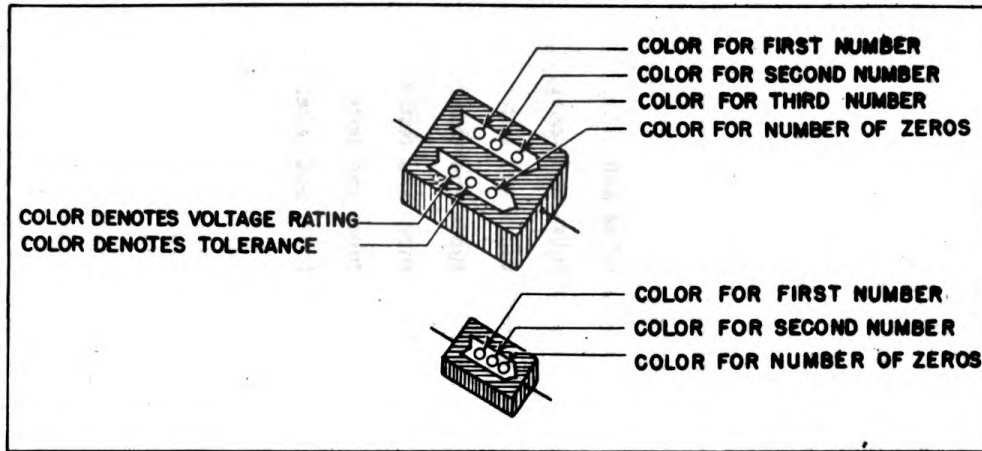

FIG. 39. CAPACITOR COLOR-CODE CHART
EXAMPLE: A 5,600 μmf . (0.0563 μf .) capacitor of 10% tolerance and a 500-volt rating is indicated by a green dot (5), a blue dot (6) and an orange dot (3), on the top row; a red dot (00), a silver dot (10% tolerance) and a green dot (500 volts) on the bottom row, arranged in the order shown in figure 39. All capacitance values are given in micromicrofarads (μmf). Small capacitors often use a 3-dot code, shown in figure 39.